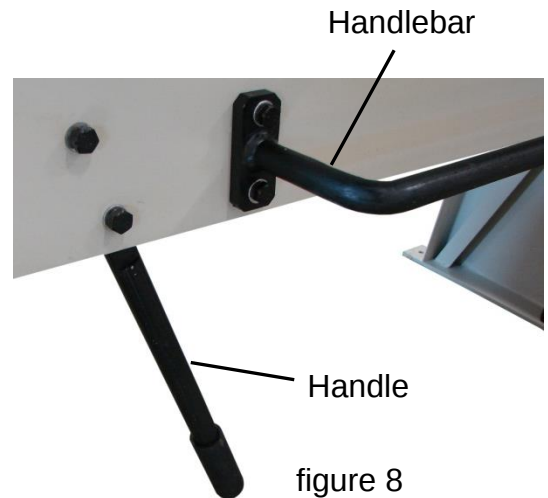

figure 7
5. While the main body is being held securely by the forklift, attach the supports with (4) M12 x 40mm lg. hex bolts, flat washers, lock washers, and hex nuts as shown in (fig. 7). Tighten securely.